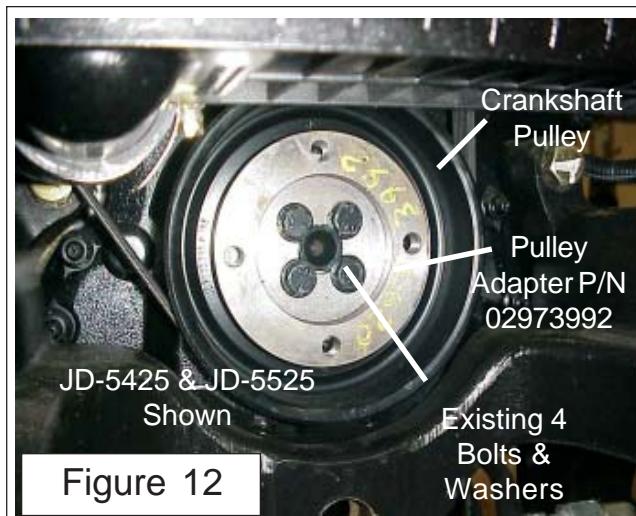
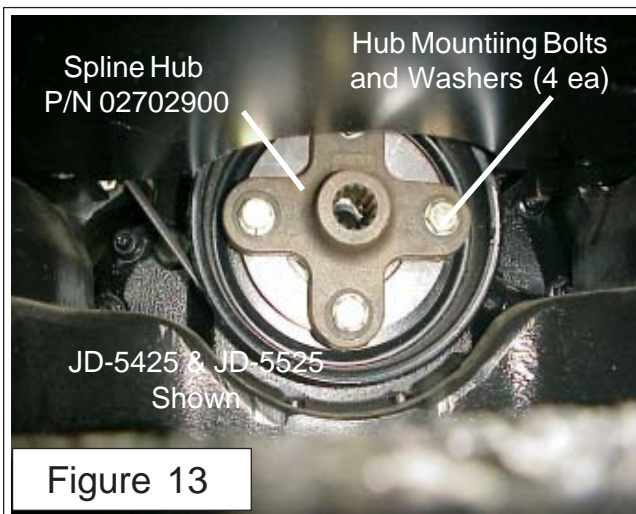
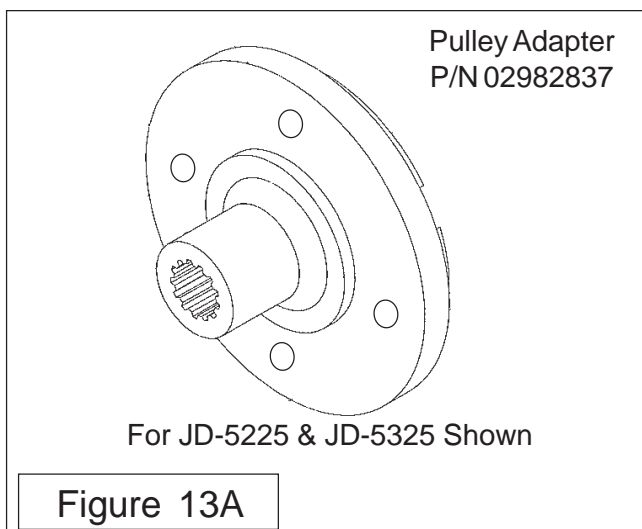

Figure 12
Figure 13
Figure 13A
9. Install Engine Pulley Adapter. The Engine pulley adapter will bolt to the crankshaft pulley of the tractor. Looking at the front of the engine at the crankshaft pulley there are four bolts and washers retaining a plate to the front of the pulley, this spacer comes already on the tractor but will not be used. Remove these four bolts removing the spacer. The spacer will not be used but the four bolts and washers will. Install the furnished pulley adapter (See Figure 12 & 13 P/N 02973992 & P/N 02702900 splined adapter for JD-5425 & 5525) (See Figure 13A & 13B P/N 02982837 for JD-5225 & 5325) to the front of the crankshaft pulley with the tractor four bolts and washers (See Figure 12, JD-5425 & 5525 Shown). Tighten the four bolts down to John Deere specifications as specified in the John deere Manual pertaining to these four bolts.
10. Install Spline Hub to Pulley Adapter. NOTE; This spline bolt on hub will apply to JD-5425 & 5525 Only). The Splined Hub (P/N 02702900) bolts to the pulley adapter (See Figure 13). The Hub has 7/8" X 13 Spline center with four mounting bolts & Lockwashers (P/N 02976344 Bolt, Hex Head 7/16"-NC X 1-1/4" - PL - GR8 and P/N 00022200 Lockwasher 7/16" PL). Torque the mounting bolts to 65 ft. lbs. (See Figure 13). **NOTE: JD-5225 & 5325 will have the splined adapter sleeve welded to the Pulley adapter (See Figure 13A & 13B).**
17. Install Pump Drive Shaft The pump Drive Shaft has a 7/8" X 13 spline end and a 3/4" w/ 3/16" keyway end (See Figure 23 & 23A). The 7/8" x 13 spline end goes toward the engine and fits into the spline hub that was bolted to the crankshaft (See Figure 13, 13A & 13B). Coat the splined end of shaft with an anti-sieze compound before inserting it into the splined hub.